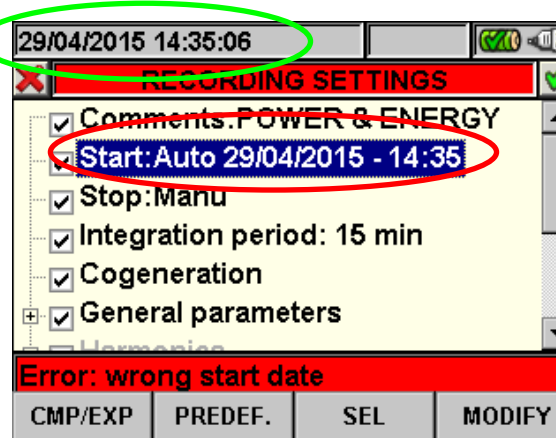

Fig. 83: Wrong Date/Hour
3. Press **SAVE** or **ENTER** keys (or smart icon ) to saving the settings. The screen of Fig. 83 is shown if a wrong Date/Hour is set. Under this condition the **SAVE** key does not have any effect. Repeat the steps 2 and 3 and set corrects values before pressing **SAVE** key again.